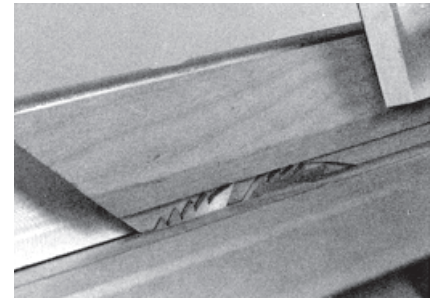
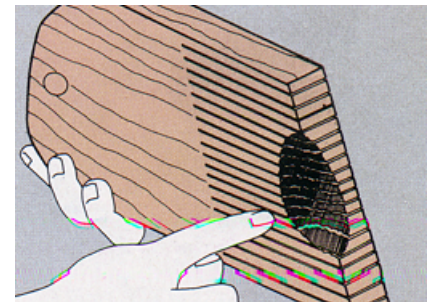

Fig. 10
Fig. 11
3. Set fence to cut a full bevel. Raise table for 1/2" blade penetration. To cut 1/4" deep rabbets, reposition fence for additional passes (see Fig. 10). For safety purposes, use a large feather board to cover blade (see Fig. 11).